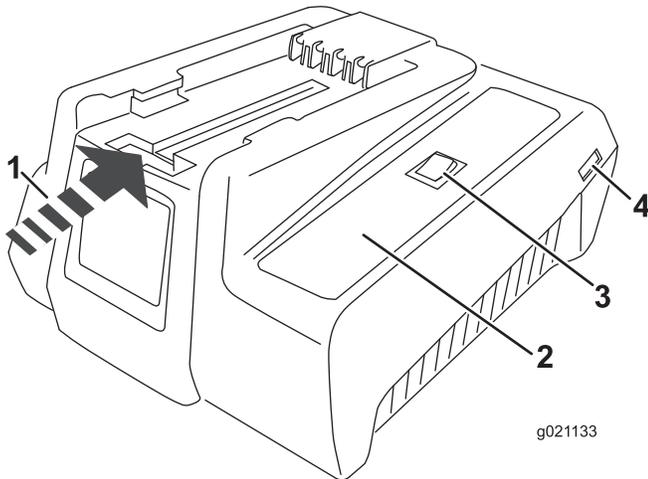
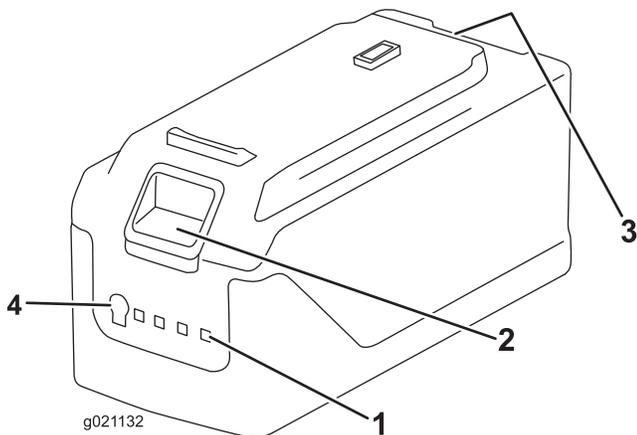

Figure 1
Figure 2
1. If the power cord is not plugged in to the charger, plug it in to the charger (Figure 1), then plug the power cord into a power socket.
2. Turn the battery upside down and line up the battery terminal with the slot in the charger (Figure 1 and Figure 2).